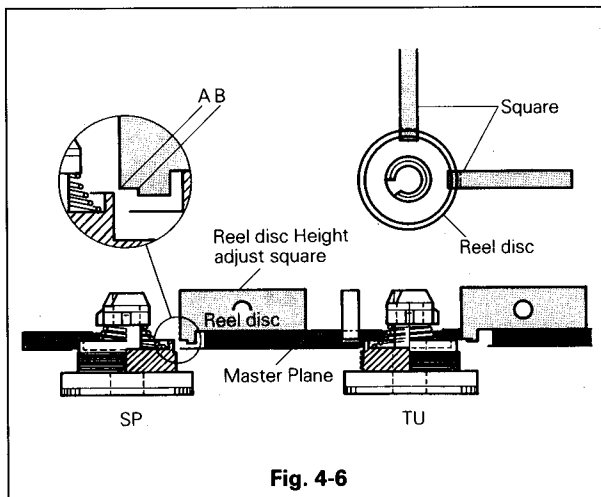

Fig. 4-6
- Examine the height of the reel disc with the "Height Adjust" square as illustrated in Fig. 4-6. The reel disc height should be between levels A & B of the square as illustrated.